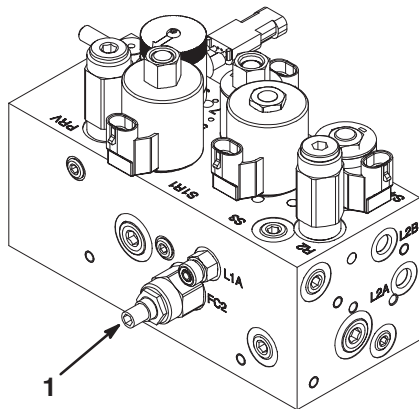

Figure 57
The cutting unit lift/drop circuit is equipped with a flow control valve (Fig. 57). This valve is preset at the factory but an adjustment may be required to compensate for differences in hydraulic oil temperatures, mowing speeds, etc. If an adjustment is required, proceed as follows:
1. Raise the seat and locate the flow control valve for the center pull frame (Fig. 57) which is located on the side of the hydraulic manifold.